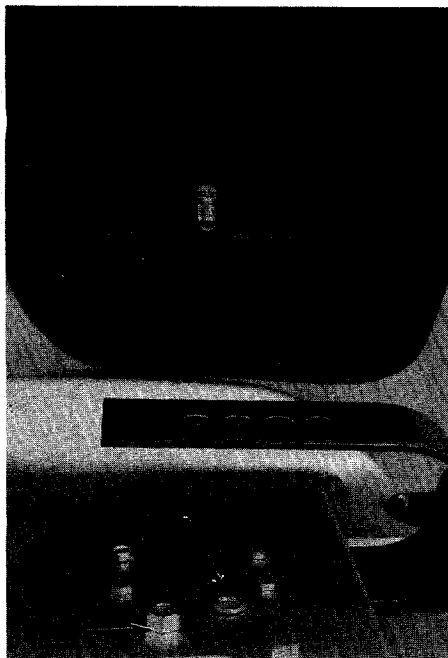

Figure 3
- 2 Place the seat on the spring in one of the four adjustment holes. (See figure 3.)